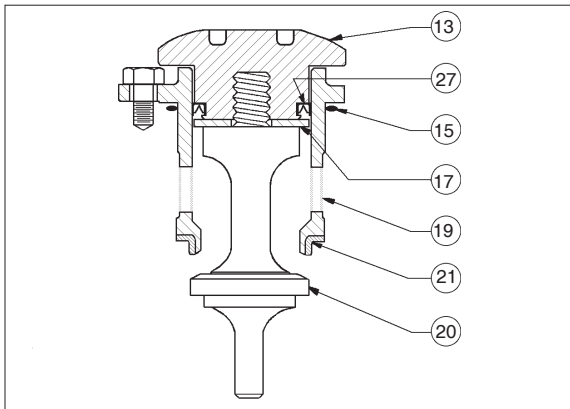

Figure 3: Assembled ITA,
- e. Remove wiper seal (16), if supplied, from within cage (19).
- f. Remove wiper washer (17.1) or camber adjusting washer (17.2), if supplied, from within cage (19).
- g. Remove o-ring lower stem seal (14.3) from plug (20).
- h. Remove seat ring (21); examine for signs of leakage. If seat ring (21) shows signs of significant leakage, determine if operating conditions of pressure, pressure drop, or temperature are exceeding limits.
2. Units with Metal Diaphragm(s) (See Figure 3):
- a. To disassemble the ITA, hold the lower part of the valve plug (20) in a bench vise; do not hold on the machined surface in the plug's (20) spindle area. (The spindle “slides” in the pressed-in-place lower guide bushing (24) and can not be allowed to be marred.)
- b. Using a special double-posted spanner wrench fitting (to order see NOTE in Section X, Parts Ordering Information), turn the piston-guide bearing (13) CCW to loosen; piston-guide bearing (13) can be removed by hand after loosening.
2. Position piston-guide bearing (13) over and into upper end of cage (19) until the cap seal (27.1) edge touches the upper lip of the cage (19). While gently applying force to press the piston-guide bearing (13) into the cage (19), simultaneously use fingers to lightly press the u-cup seal (27.3) inwards into the groove of the piston-guide bearing (13) until the u-cup seal (27.3) “slips into” the cage (19). DO NOT USE TOOLS, LUBRICANT, OR HEAVY FORCE TO ENGAGE THE U-CUP SEAL (27.3) INTO THE CAGE (19).
4. Place properly oriented seat ring (21) onto its shoulder at the lower end of cage (19).
- a. Place new o-ring lower stem seal (14.3) into groove of valve plug (20).
- b. Insert valve plug (20) upwards through lower end of cage (19) and through the center hole in piston-guide bearing (13), also capturing the camber adjusting washer (17.2) or wiper washer (17.1) and wiper seal (16), if supplied. Hold plug (20) and cage (19) together.
- c. Place an oversized nut or stack of washers, the same approximate height of the upper diaphragm pressure plate (8) and the lower diaphragm pusher plate (10), over the upper end of valve plug (20) and temporarily secure with diaphragm lock nut (7), manually tightened. Do **NOT** allow valve plug (20) to rotate against seat ring (21) during tightening.
- a. Insert valve plug (20) upwards through lower end of cage (19) and through the center hole of camber adjusting washer (17.2) or wiper washer (17.1) and wiper seal (16).
- b. Engage valve plug (20) with piston-guide bearing (13) threads and tighten manually as far as possible.
- c. Place ITA into a vise with leaded jaws and grasp at a hub location on the valve plug (20) that is not in the “spindle” zone. (See Figure 3.)
- d. Using a special double-posted spanner wrench fitting (to order see NOTE in Section X, Parts Ordering Information), tighten piston-guide bearing (13) to the valve plug (20) with the following torque values. Do **NOT** allow valve plug (20) to rotate against seat ring (21) during tightening.
1. Place body (23) in a vise.
2. Reinstall internal sensing drilled plug (32) with compatible thread sealant.
3. Insert the lower piston spring (22) into the body (23), if supplied.
4. Fit the o-ring cage seal (15) into its body (23) groove.
5. With the ITA held manually in the closed position, insert ITA into body (23).
6. Properly align all three cage bolt (18) holes as there is only one circumferential location